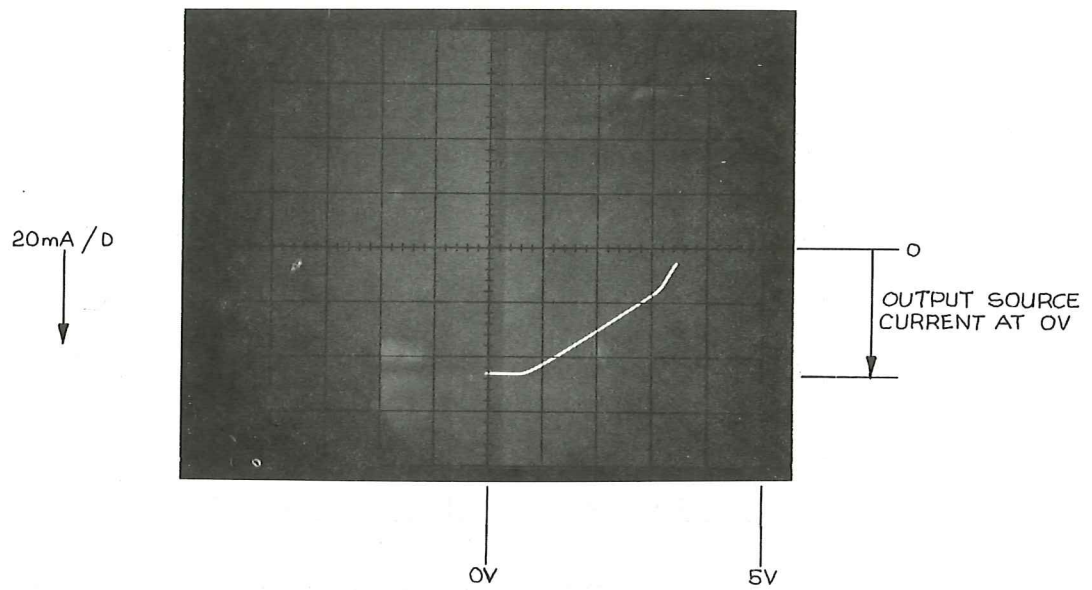

Figure 17. Typical display of output source current.
- CHECK-output current source on the vertical display; see Fig. 17.